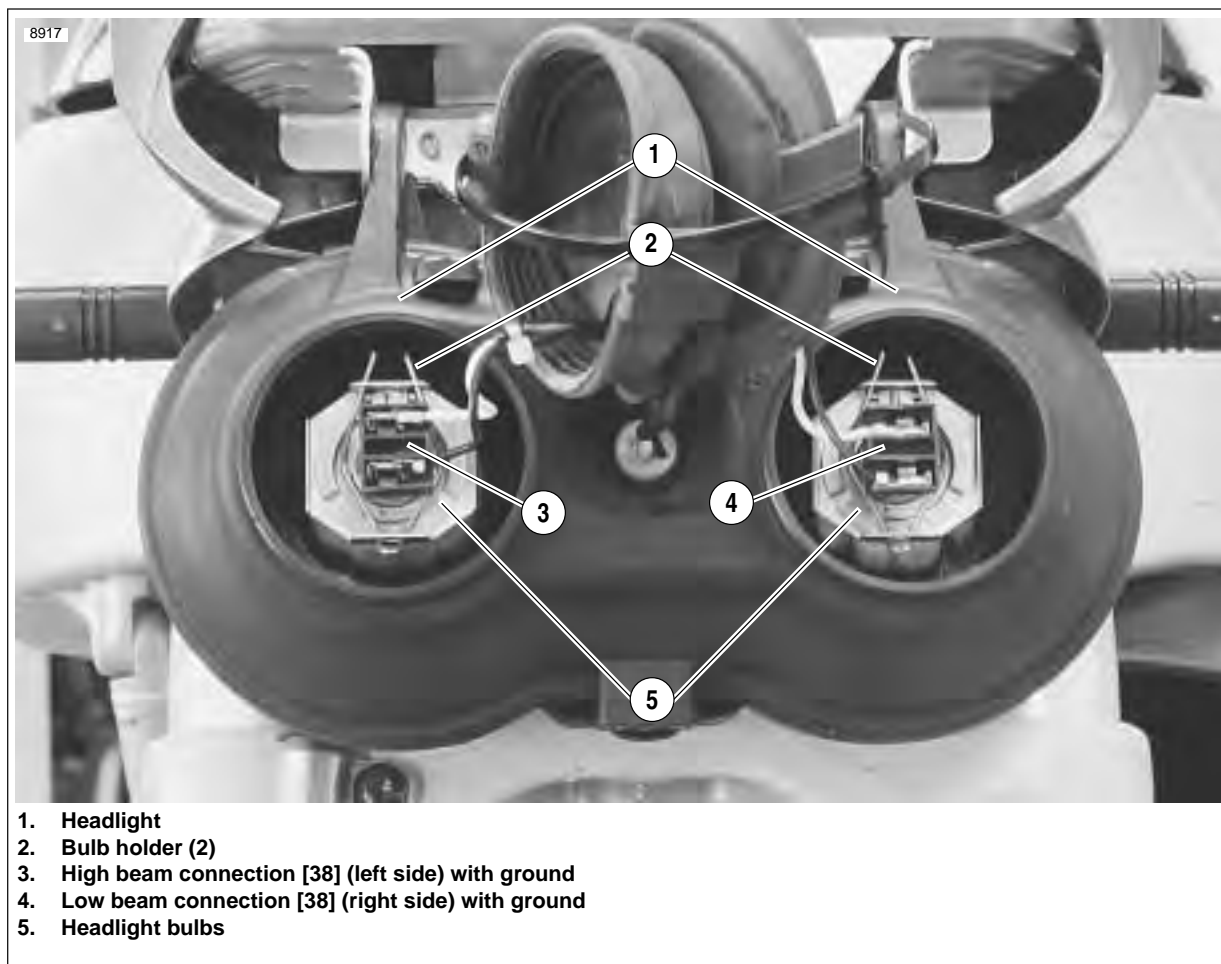

Figure 7-51. Headlight Assembly/Rear View
6. See Figure 7-51. Remove rubber boot from headlight housing.
7. Unplug headlight bulb connectors (3) and/or (4).
8. Release bulb holder (2) from headlight housing clips.
1. See Figure 7-51. Align tabs on bulb (5) with tabs on headlight (1). Insert bulb.
2. Close the bulb holder (2).